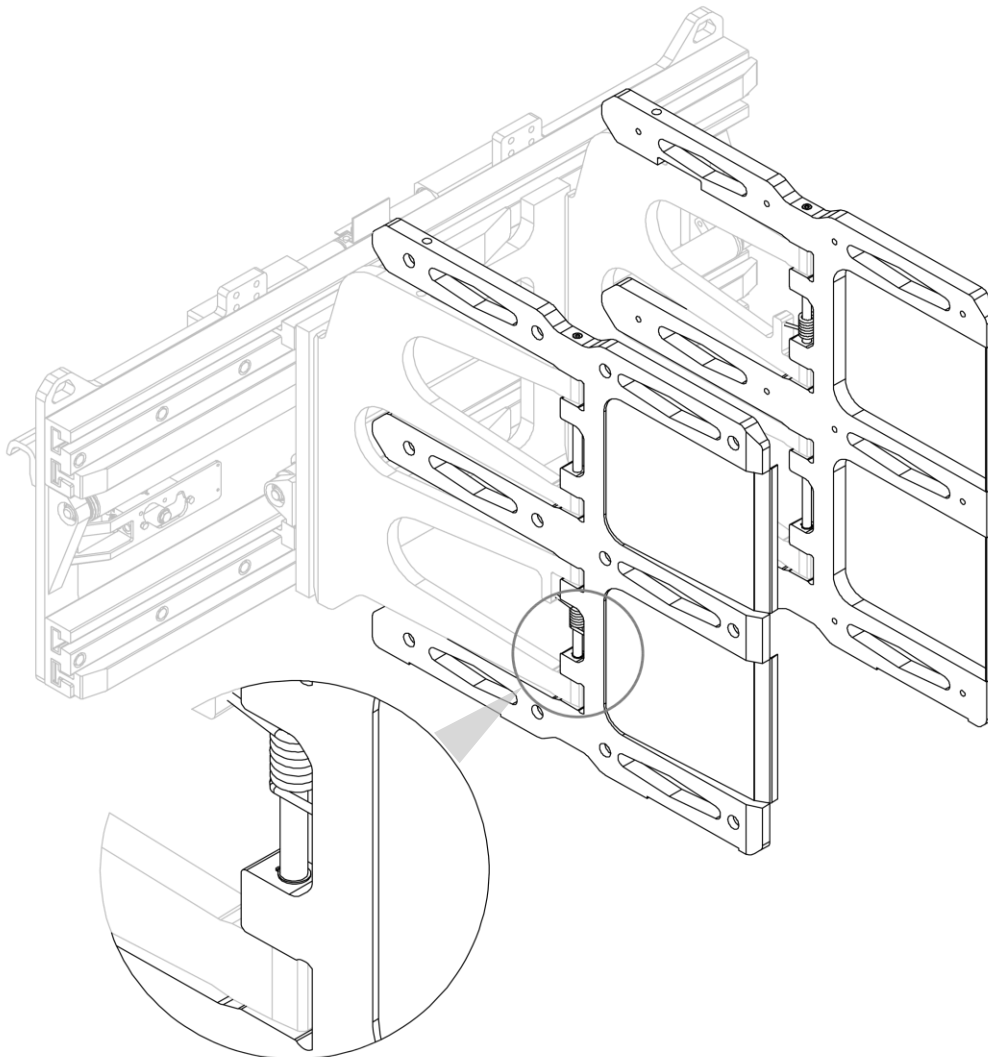
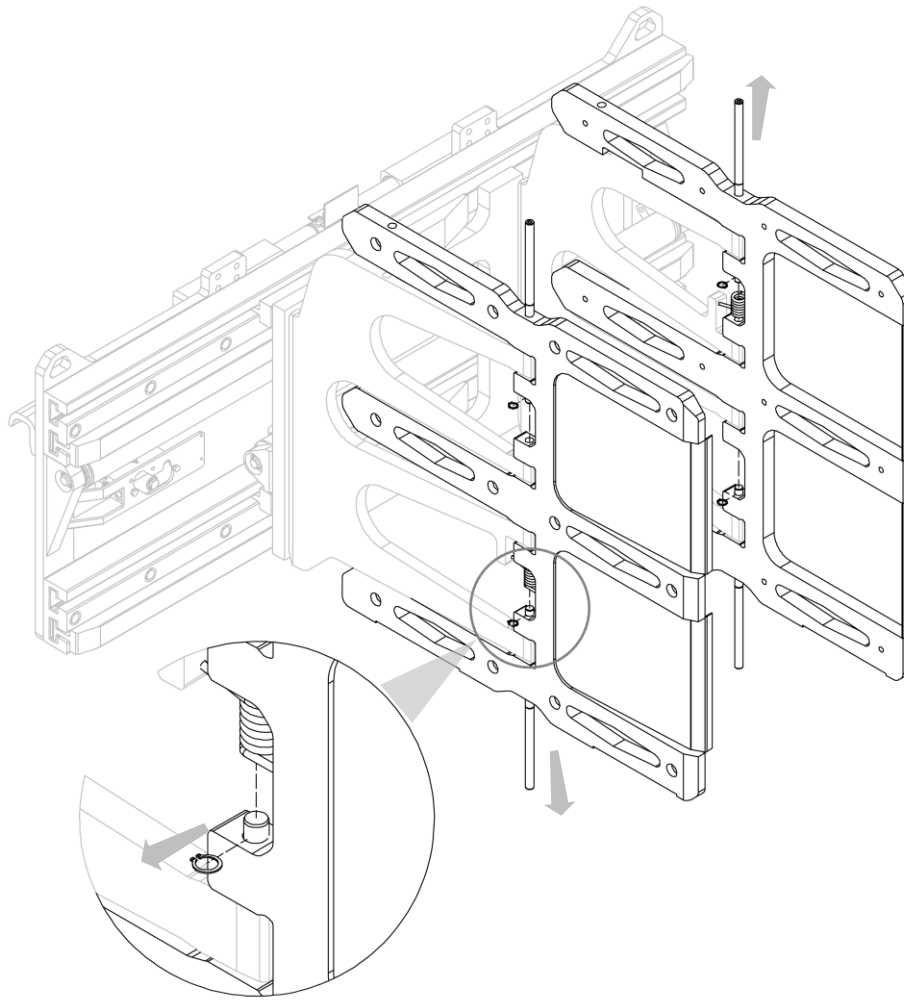

Figure 82
Figure 83
4. Use *Figure 82* and *Figure 83* as guides.